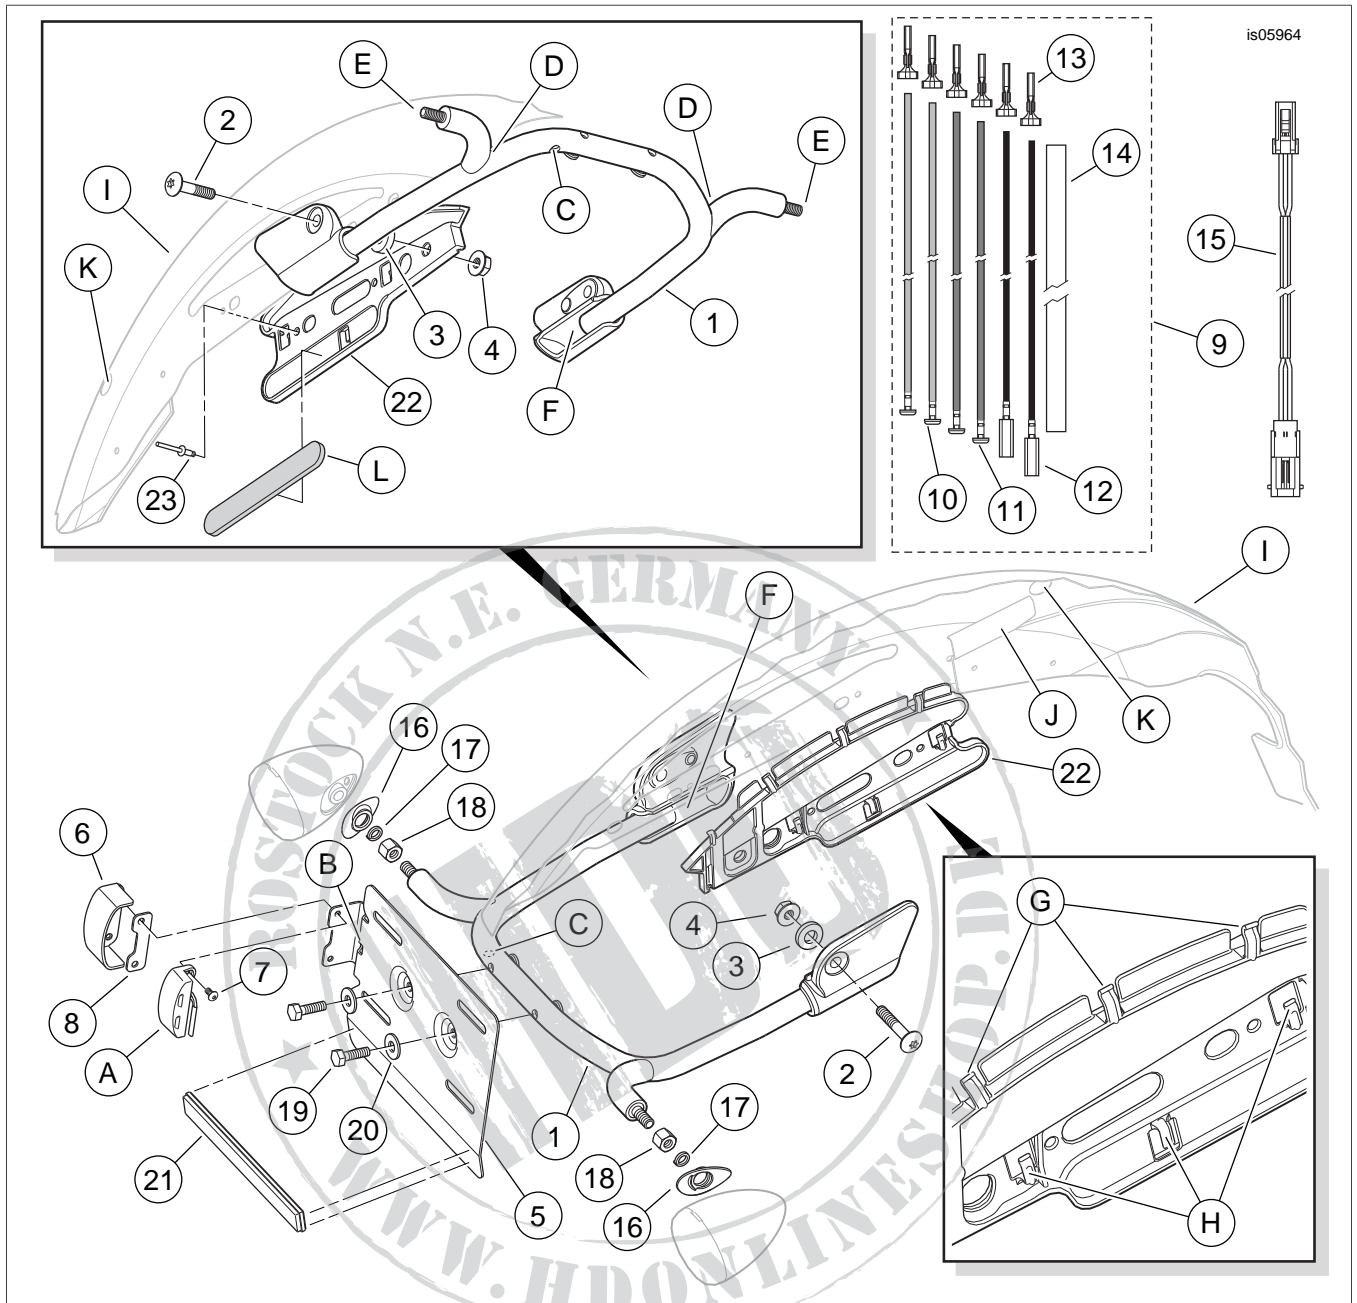

Figure 5. Service Parts, XL Rear Stop/Tail/Turn Signal and License Plate Relocation Kit
18. See Figure 5. Get the protective tubing (14) from the kit, and cut into two equal-length pieces.
19. Slide one piece of protective tubing over the three STT lamp wires and into the forward opening (F) of the STT relocation weldment on each side. Continue sliding the tubing over the wires until it reaches at least as far as the Y-joint, or preferably all the way to the STT lamp housing.
1. See the Figure 5 top inset. Get the left-side reflector mounting bracket (22) and pop rivets (23) from the kit. Position the bracket to the inside left of the fender, aligning the mounting holes with the holes in the fender from the drilled-out rivets. Refer to the similar bracket on the right side.
- See Figure 5. Get the license plate illuminator harness extension (15) from the kit, and connect the pin housing to the license plate illuminator socket housing.
- On the left side, route the license plate illuminator wiring and protective tubing through the three **upper** clips (G) on the reflector bracket (22), behind the wide plastic clip (J) on the plastic rear fender extension (mud flap) toward the front of the fender and out through the wire pass-through hole (K) in the fender.
- On each side, route the STT wires and protective tubing through the three **lower** clips (H) on the reflector bracket, behind the wide plastic clip and out through the wire pass-through hole.
6. Get the six socket terminals (13) from the kit, and the four-way socket housings removed from the original wires.